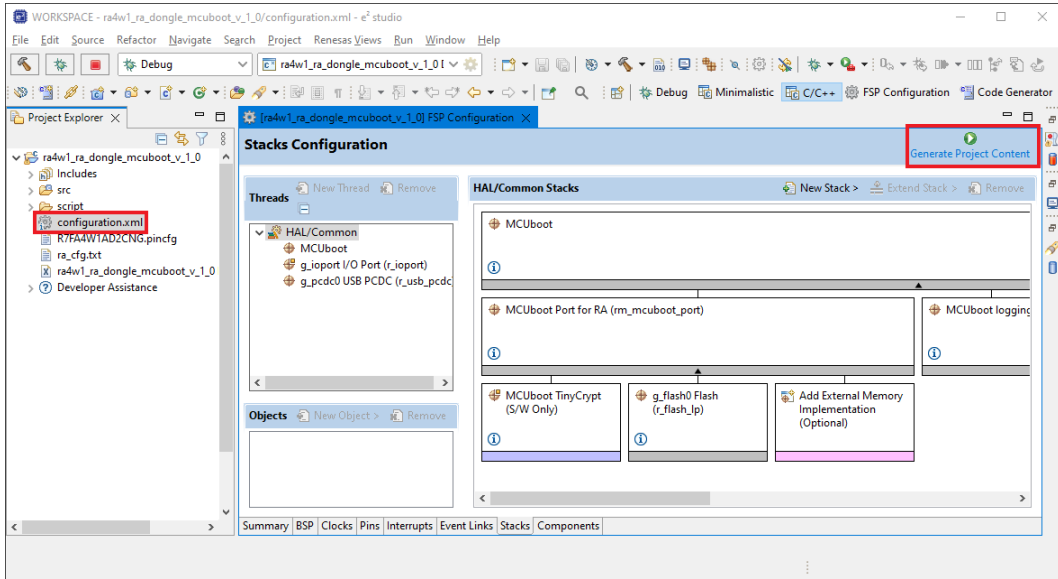

Figure 18. Generation of Hardware Specific Project Files
- The project is now imported into the e² studio workspace. Double-click on **configuration.xml** to open the FSP Configurator and click on the **Generate Project Content** button to generate the hardware specific project files that are needed to run the project on the selected hardware (Figure 18).